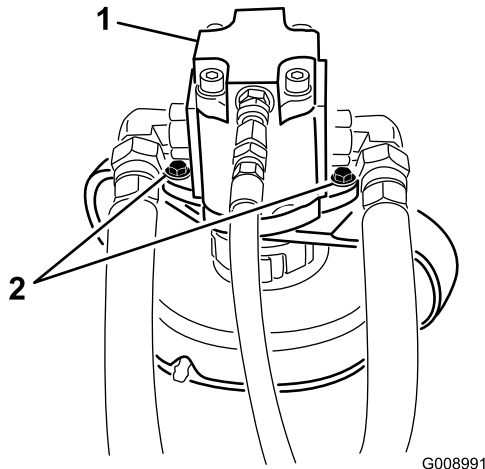

Figure 81
4. Remove the bolts securing the hydraulic motor to the cutting unit (Figure 81). Lift the motor off of the cutting unit and lay it on top of the cutting unit.
2. Remove the bolts securing the hydraulic motor to the cutting unit (Figure 81). Lift the motor off of the cutting unit and lay it on top of the cutting unit.